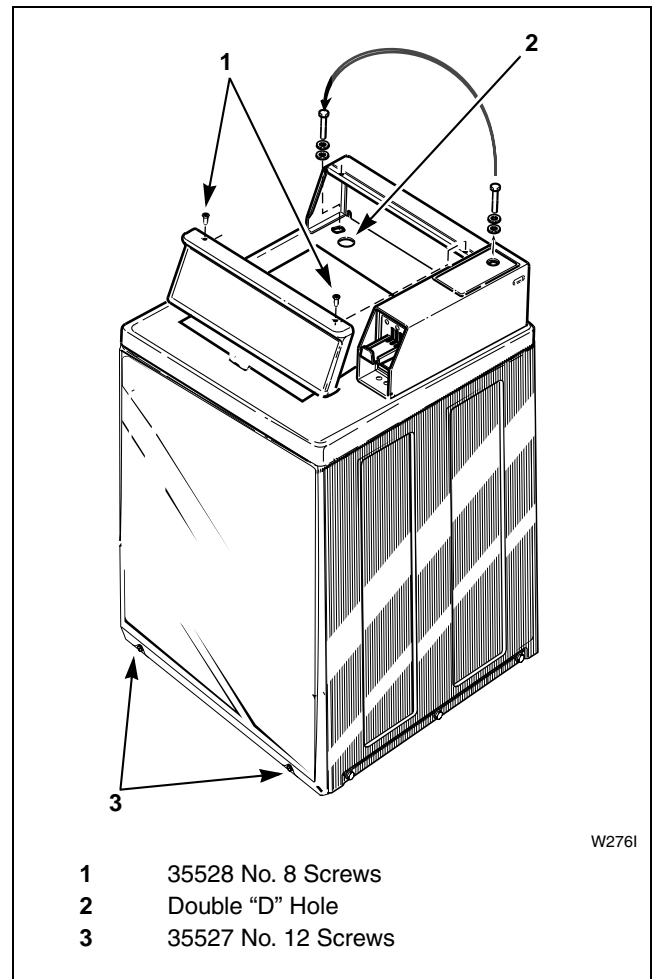

Figure 18
1. Remove the Phillips head screw from service door (refer to *Figure 18*).